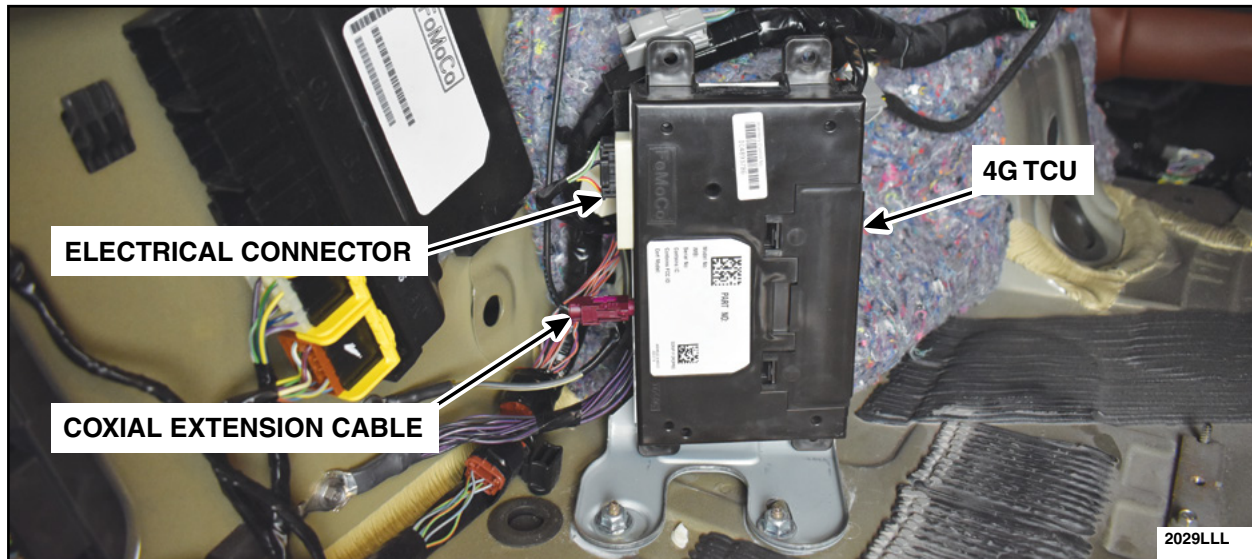

FIGURE 8
9. Install the 4G TCU. See Figure 8.